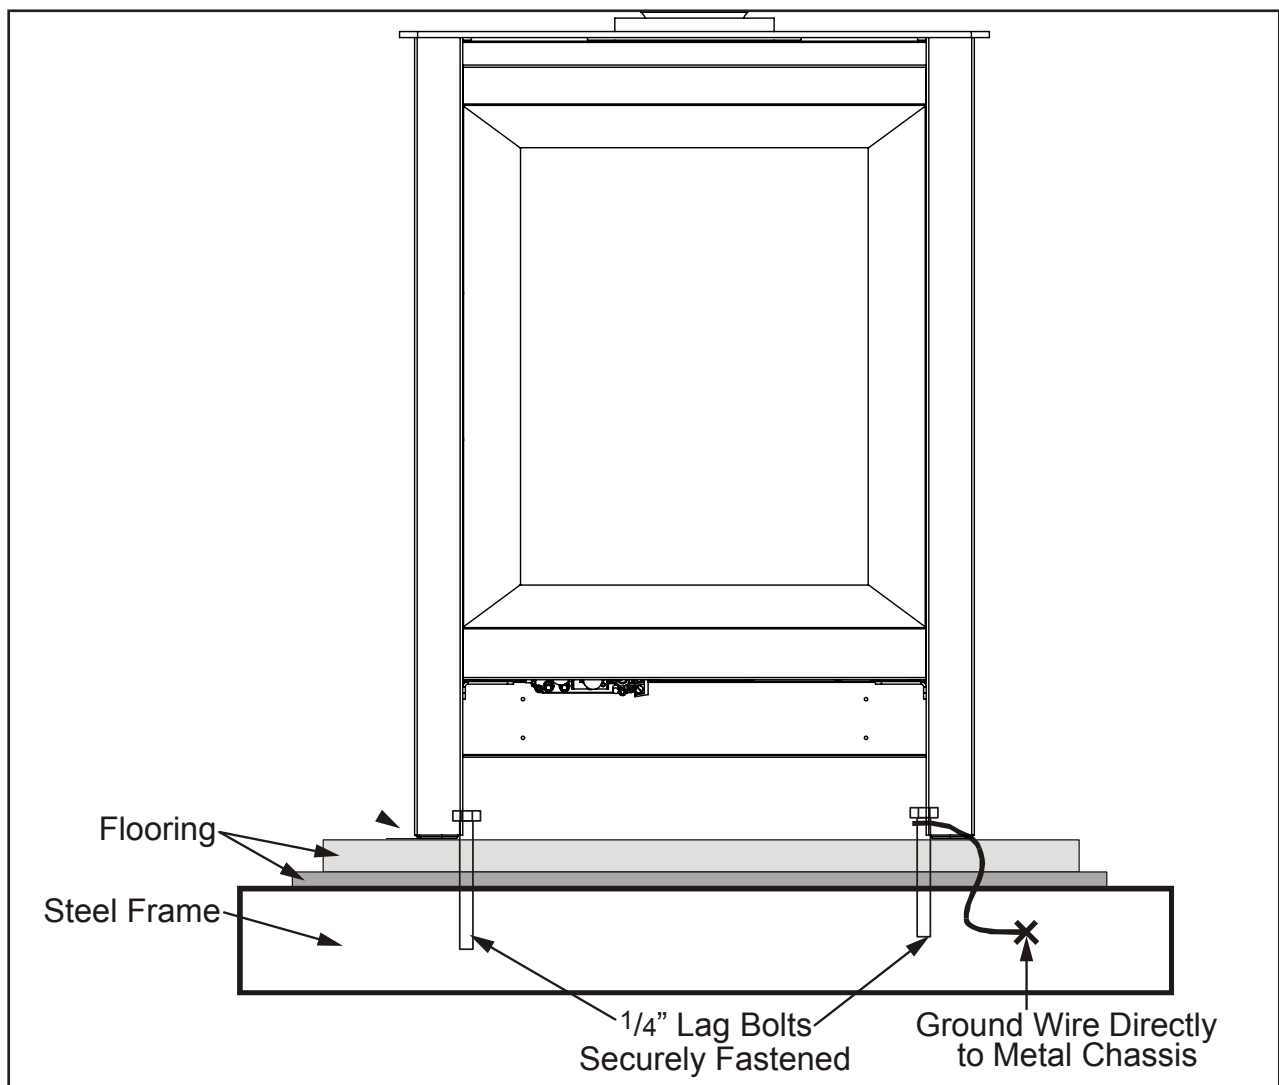

Figure 24: Correct Mobile Home Installation
- Using a T20 screwdriver remove the three front screws and three rear screws on each cabinet side panel. Remove the cabinet side panels (see Figure 24)
- Secure the S20 to the floor using the two holes (one per side) in the pedestal and hearth pad (if used) (see Figure 24).